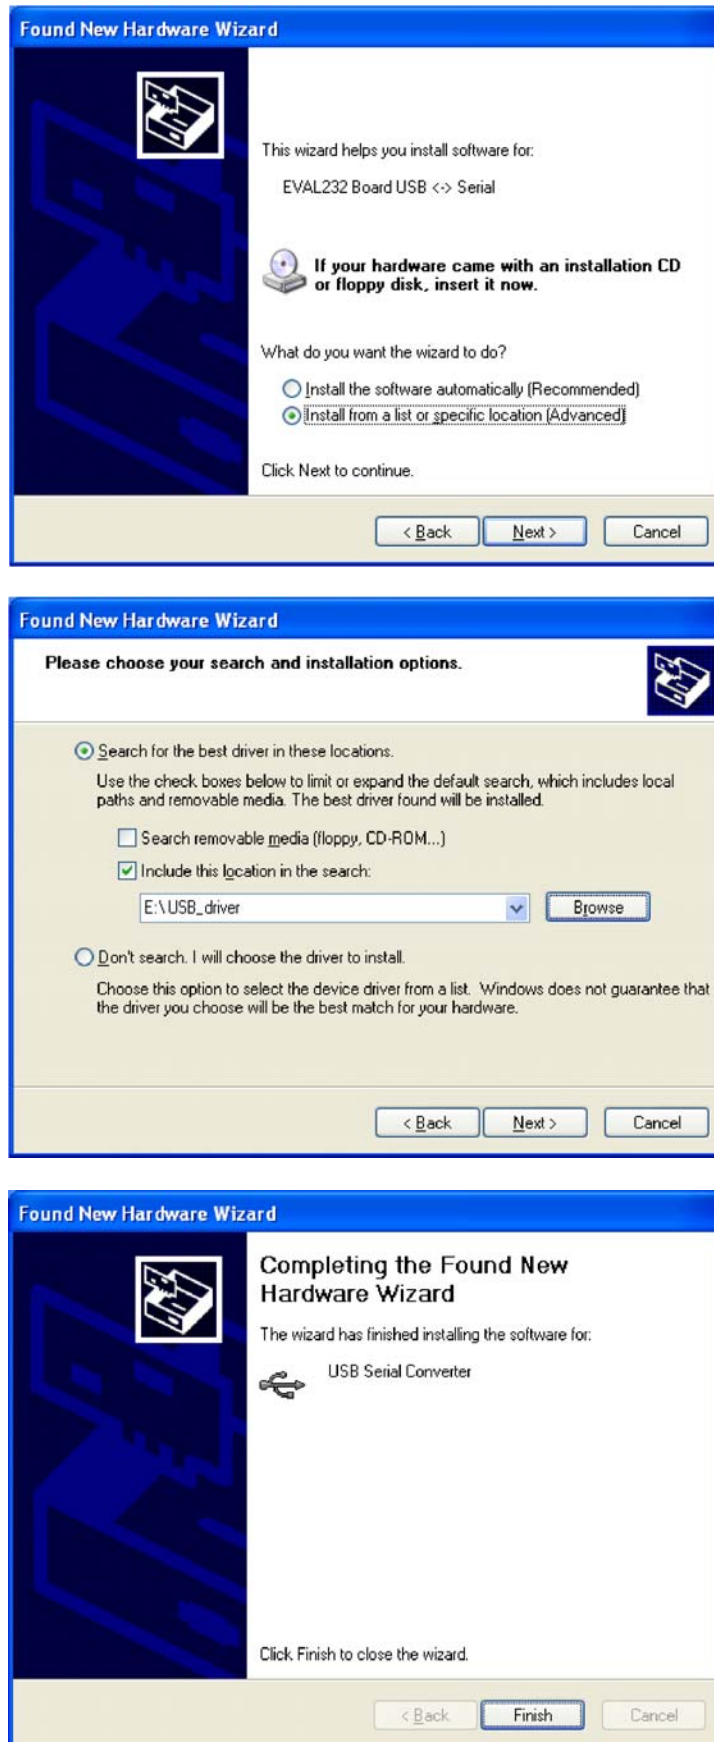

Fig. 4.1: Installing the USB driver
- ▶ Insert the enclosed CD into the disk drive at the PC and follow the installation instructions (see Fig. 4.1).